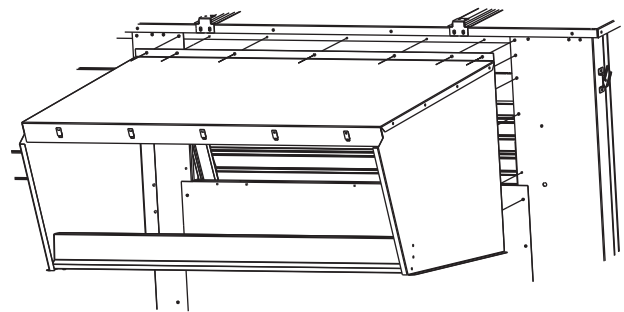

Fig. 30 — Removing Screws from the Outdoor Air Opening of Unit
8. Remove the screws on each end and along top of the outdoor air opening of unit. Set hood assembly in place and attach to unit using gasketed screws. See Fig. 30.